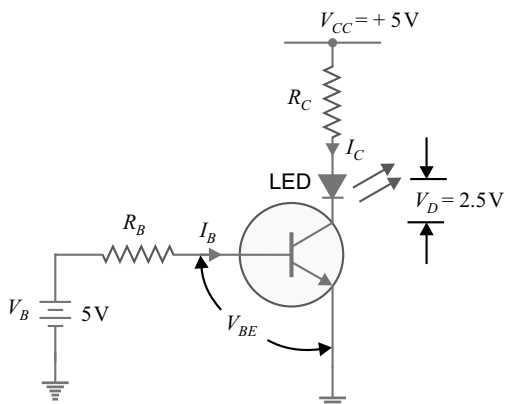

Fig. 5.7
**Example 5.4.** Bipolar junction transistor (BJT) is often used to switch on the LED. Fig. 5.7 shows a LED driving circuit designed to illuminate the LED when the transistor is turned on (saturated) by a 5 V battery at the base. Find the values of  $R_B$  and  $R_C$  that should be used if the LED is to be illuminated by 20 mA of forward current. Assume that the forward voltage drop across the LED is 2.5 V and that the silicon transistor has  $\beta = 50$ .